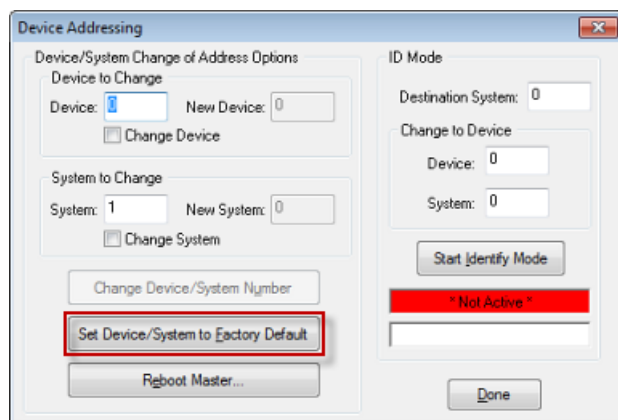

FIG. 38 Device Addressing dialog
2. Click the **Set Device/System to Factory Default** button (FIG. 38):